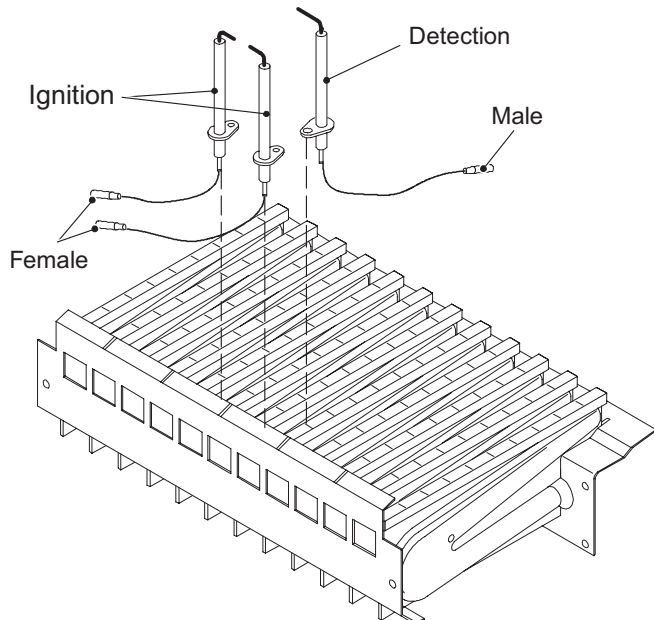

Figure 15.1
- Refer to Figure 15.1 in order to recognise the electrodes and to correctly connect the wiring.